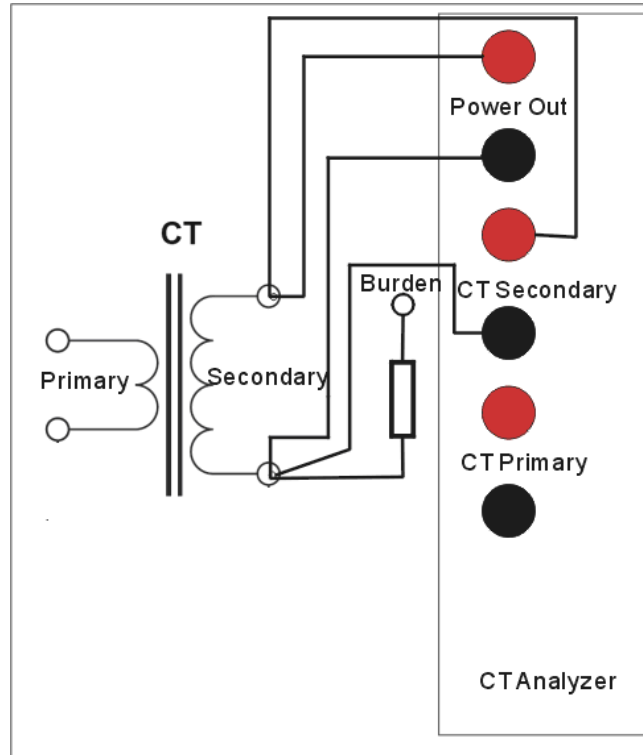

Figure 3.5 Reference connections for CT winding resistance test
Please connect Analyzer and sample CT as figure 3.5 in CT winding resistance test
- 1) Connect Analyzer grounding terminal to protection earth (PE).
- 2) Disconnect sample CT secondary winding with secondary loop as figure 3.5.